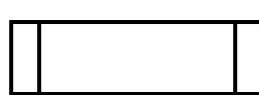
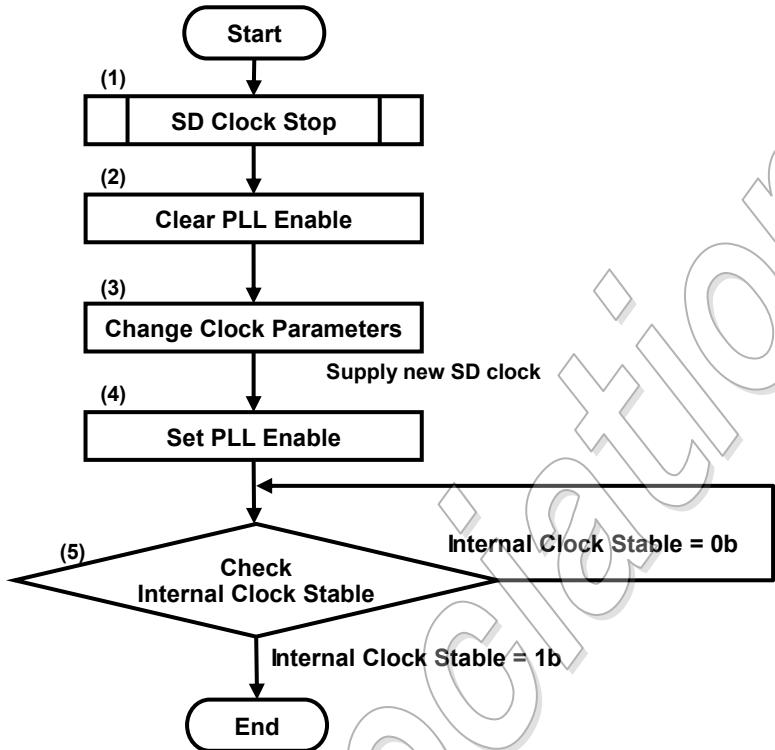

Figure 3-1 : Double Box Notation
Figure 3-5: SD Clock Change Sequence
This specification uses the double box like Figure 3-1 (e.g., the step (1) in Figure 3-5 and the step (5) in Figure 3-26). It means that the other flows, which already are shown, shall be referred.
The sequence for changing SD Clock frequency is shown in Figure 3-5.